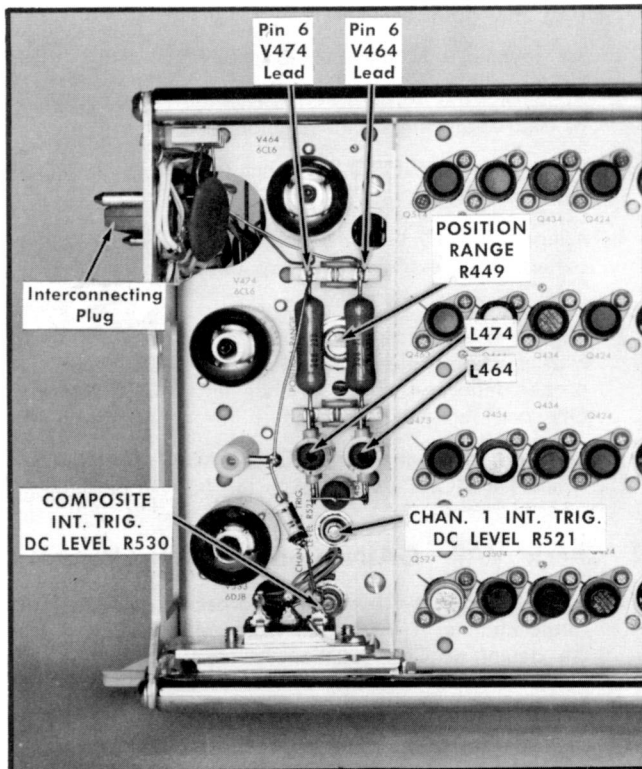

Fig. 6-2. Left side view, rear portion of the Type 3A74, showing location of test points, adjustments, and interconnecting plug.
- a. Using a small screwdriver, short the plates (pin 6) of V464 and V474 together. Fig. 6-2 shows the location of the pin 6 leads.
- d. With all the Type 3A74 POSITION controls set to midrange and the MODE switches set to NORM., adjust the POSITION RANGE R449 control (see Fig. 6-2) to center all the traces as a group at the crt electrical center.
- i. Connect the probe from the test oscilloscope to pin 6 lead of V464 (see Fig. 6-2).
- k. Connect the probe from the test oscilloscope to pin 6 lead of V474 (see Fig. 6-2) and check that the calibrator waveform displayed on the test oscilloscope is 40 volts peak-to-peak, within a tolerance of 2 volts.